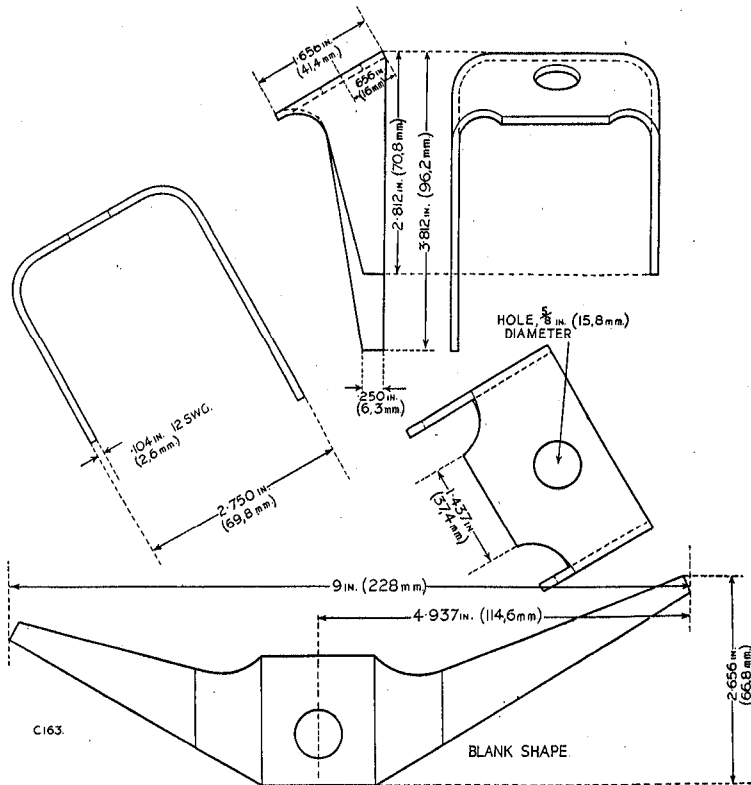

Fig. 1. Dimensions of support bracket.
7. Make the support bracket reinforcement from mild steel to the dimensions shown at Fig. 1.